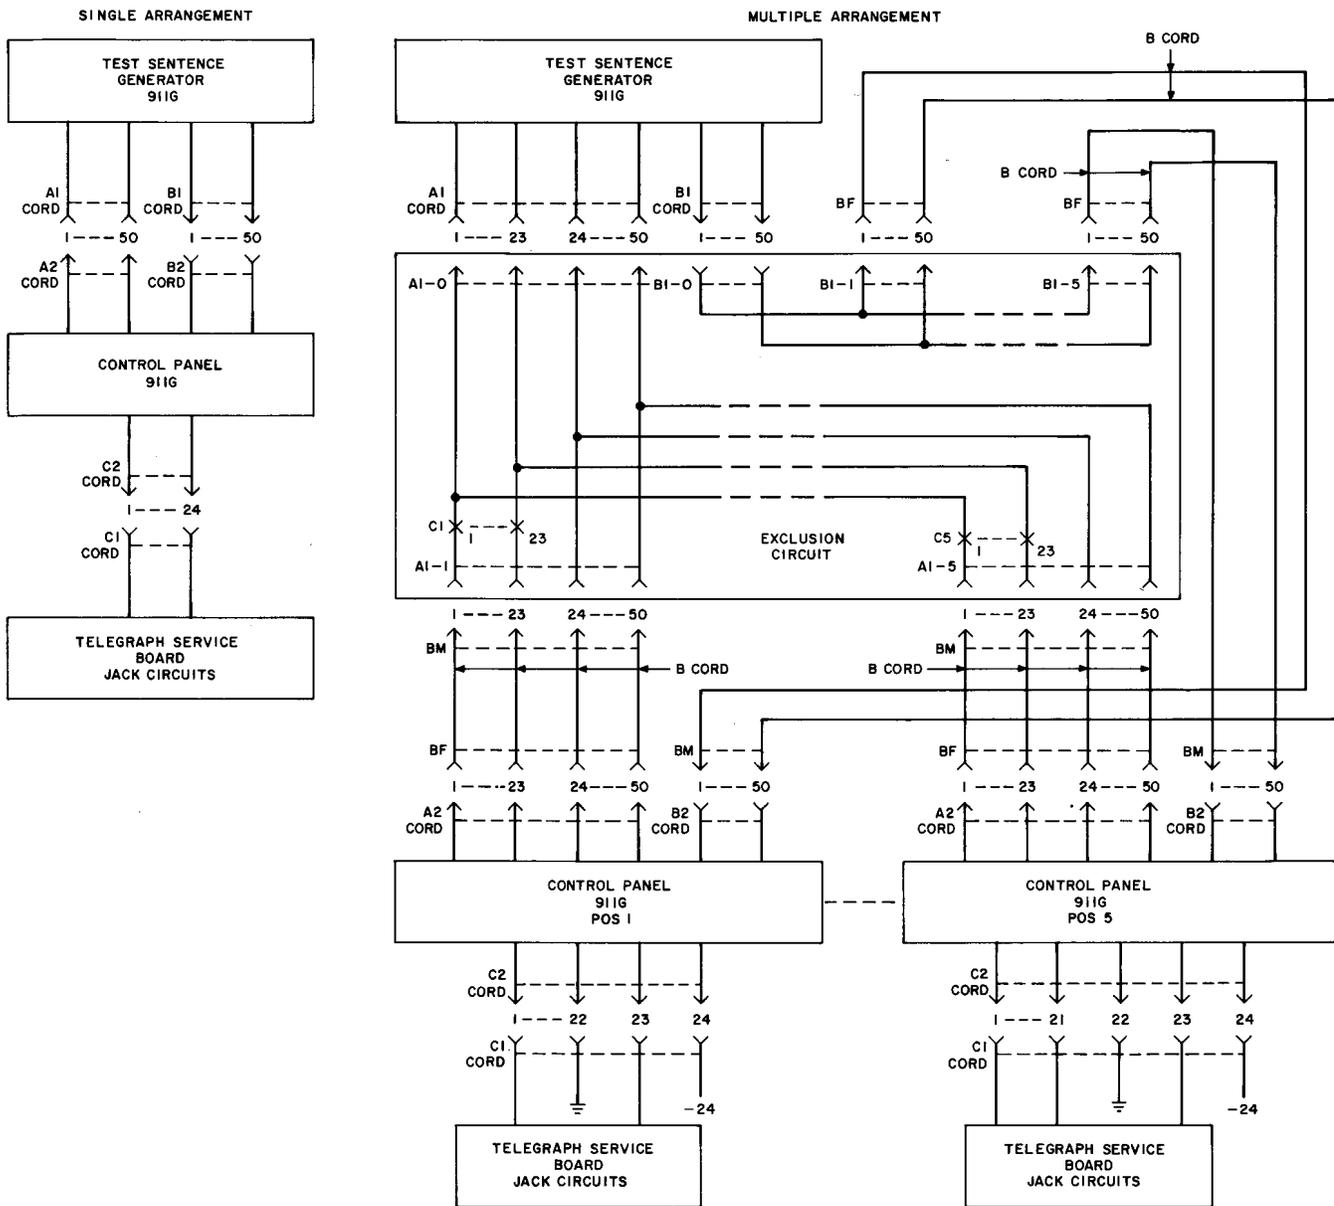

Fig. 3—Test Sentence Generator Arrangement for Single and Multiple Installations
2.04 By using a 911K Exclusion Circuit (Fig. 3), a maximum of five control panel positions may utilize a single TSG electronic unit. The exclusion circuit prohibits use of the TSG electronic unit by more than one control position at a time. A CONN switch on the control panel is depressed to obtain access to the electronic unit in multiple installations.